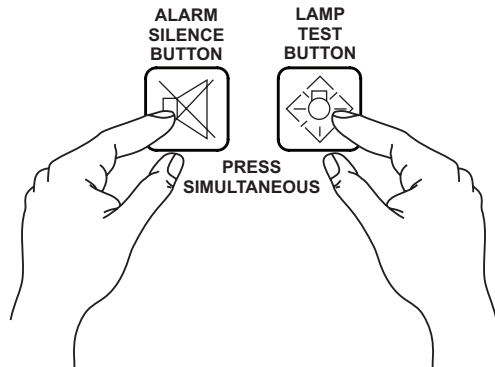

Figure 105. Alarm Silence And Lamp Test Buttons
1. Press and hold the **Alarm Silence** and **Lamp Test** buttons (Figure 105) at the same time for 10 seconds.